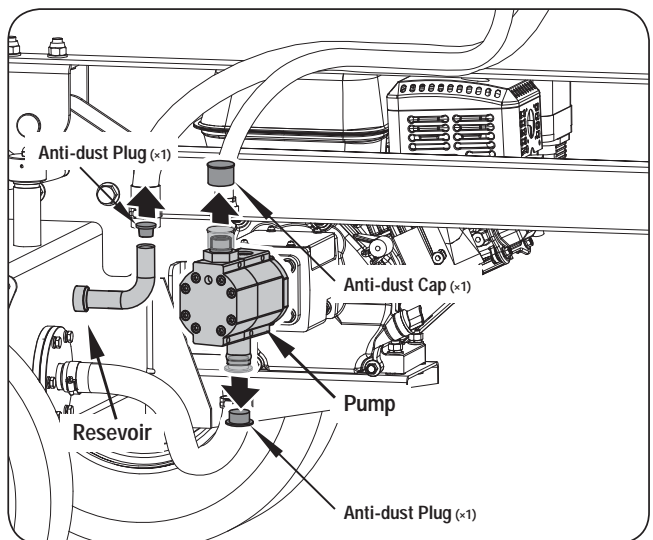

Figure 9c
5. Remove the anti-dust cap and anti-dust plugs from the pump and the Reservoir. (See *Figure 9c.*)